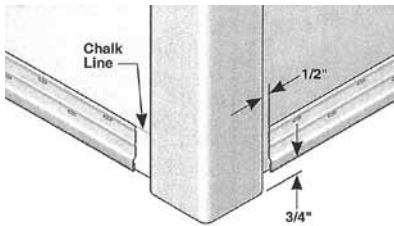

Fig.1 Standard Corner Post
- To allow for movement, install starter strip (or J-channel) 1/2" from corner post (see Figure 1).